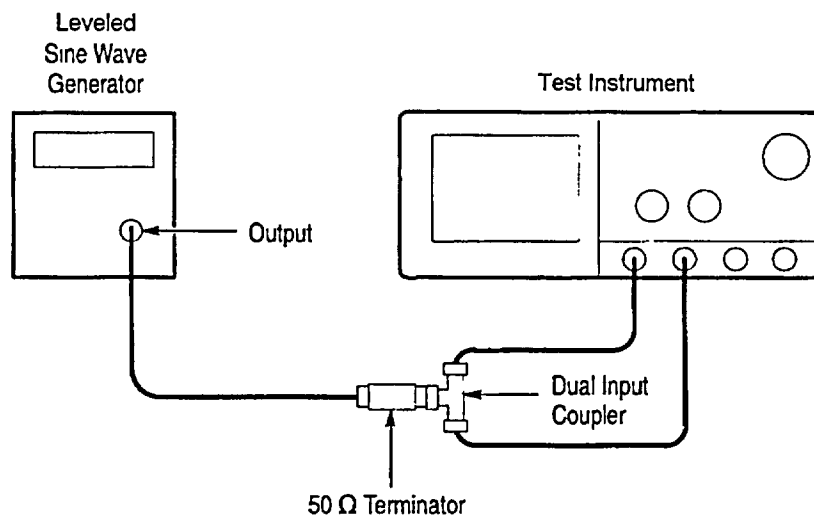

Figure 3. Equipment setup.
(1) Press front-panel **SETUP** key.
(2) Press main-menu **Recall Factory Setup** key.
(3) Press side-menu **OK Confirm Factory Init** key.
(4) Adjust front-panel **HORIZONTAL SCALE** knob to display **500 ps**.
(5) Press front-panel **SHIFT** key.
(6) Press front-panel **ACQUIRE MENU** key.
(7) Press main-menu **Mode** key.
(8) Press side-menu **Average 16** key.
(9) Connect leveled sine wave generator leveling head to **CH 1** and **CH 2** using 50 Ω attenuator and dual input coupler. See figure 3.